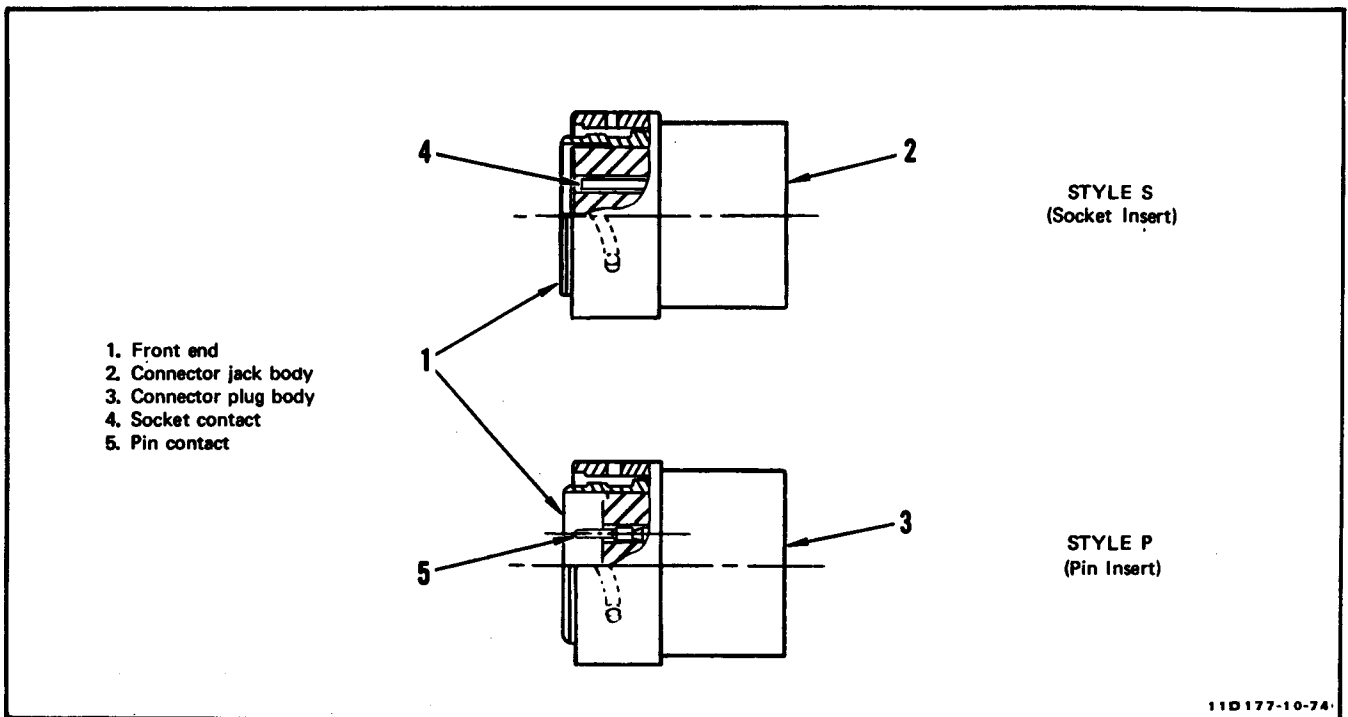
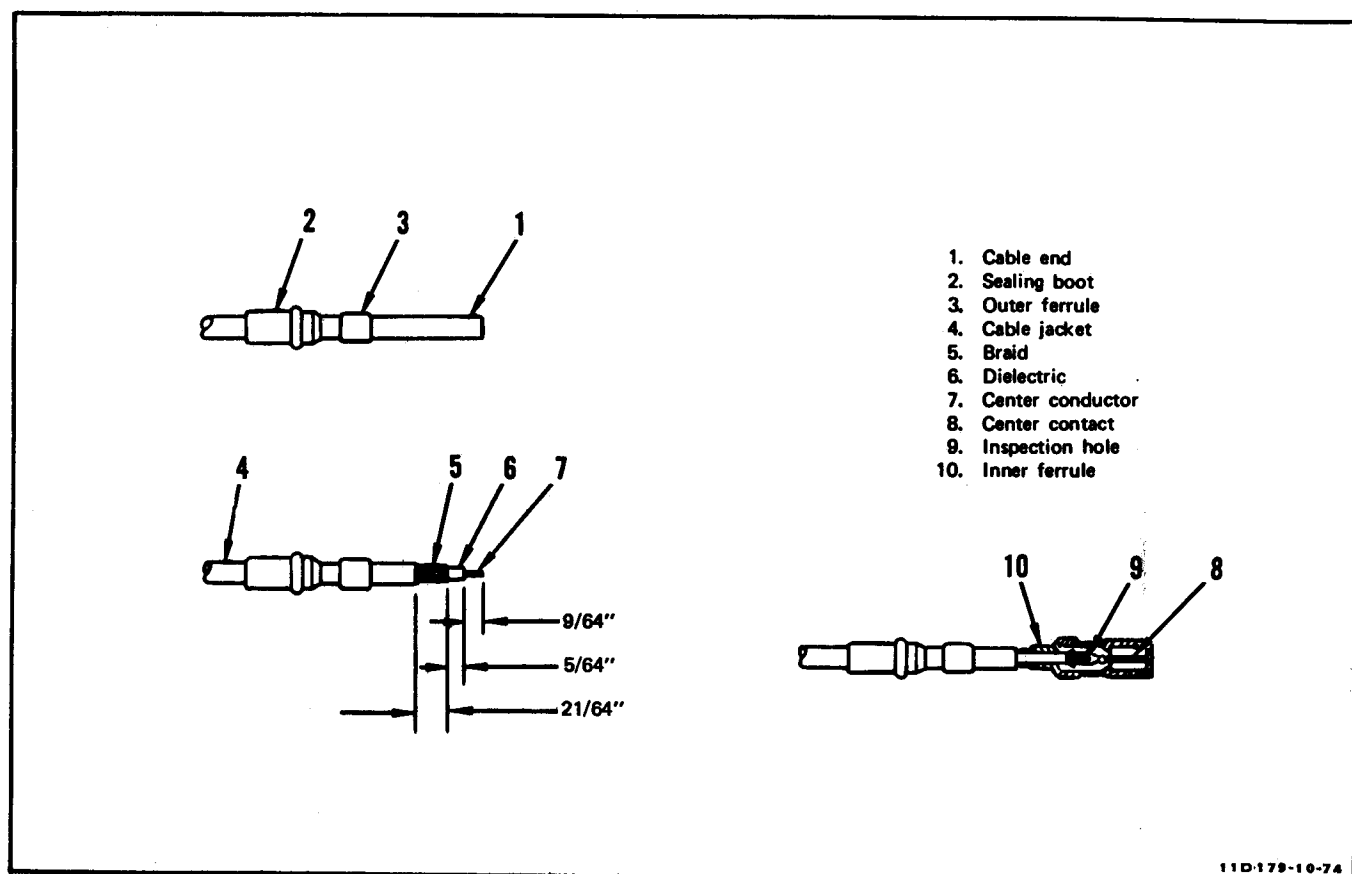

Figure 11-21. ONO89560 Series Connectors
Figure 11-23. ONO89560 Series Connectors - Coaxial Contact Repair
11-60. Disassembly. (See figure 11-21.)
**11-62. Assembly.** (See figure 11-21.)
- b. Place wire in channel of insertion tool with tip firmly seated against back of socket contact (4) or pin contact (5).
- c. Insert contact into correct hole of connector jack body (2) or connector plug body (3).
**11-64. Disassembly. (See figure 11-21.)**
c. Slide tool down over wire and into rear seal of connector jack body (2) or connector plug body (3). Slowly push tool into connector until a positive resistance is felt. At this point, contact retaining clip is released.
d. Press wire of socket contact (4) or pin contact (5) to be removed against serrations of plastic tool and pull both tool and contact wire assembly out of connector.
**11-65. Contact Repair. (See figure 11-23.)**
a. Cut cable end (1) square and even.
b. Slide sealing boot (2) and outer ferrule (3) on cable jacket (4).
c. Trim cable jacket, braid (5), dielectric (6), and center conductor (7) to dimensions shown.
d. Insert center conductor into contact (8). Contact must butt against dielectric.
e. Crimp contact. Center conductor must be visible through inspection hole (9).
f. Flare out ends of wire braid slightly to facilitate insertion of inner ferrule (10).
**11-66. Assembly. (See figure 11-21.)**
b. Insert socket contact (4) or pin contact (5) into correct hole of connector jack body (2) or connector plug body (3).